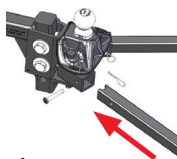

Figure 30
4. Insert the spring arms into the sockets of the hitch head and secure them with the socket pins and clips. Make sure the decal stickers are facing the outside. The 12k and 14k models are side specific. (Figure 30)